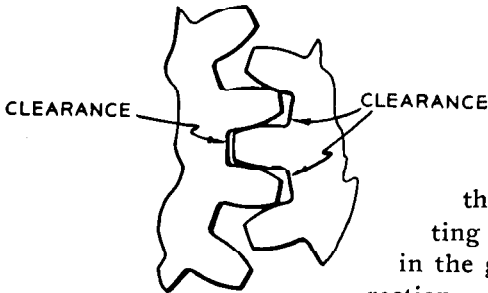

FIG. 6
When setting up the gear train, be sure to allow sufficient clearance between two meshing gears (Fig. 6). Gear clearance does not reduce the accuracy of a thread cutting operation, because all play in the gears is taken up in one direction. A method often used to obtain proper gear clearance is: (1) Place